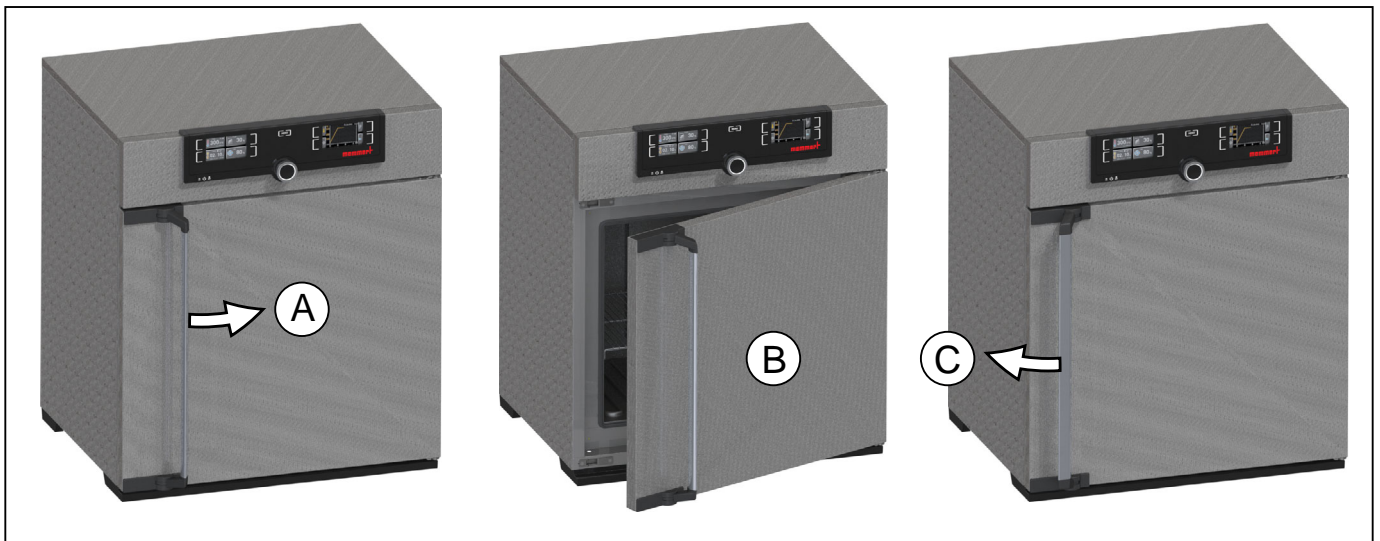

Fig. 12 Opening and closing the door
- ▶ To open the door, pull the handle bar to the side (to the left or to the right, depending on the door variation, see Fig. 12, A). The door opens slightly, so that the heat can be vented with the door ajar in case of high temperature inside the chamber. The door can then be opened completely (B).
- ▶ To close the door, push the handle bar back (C).